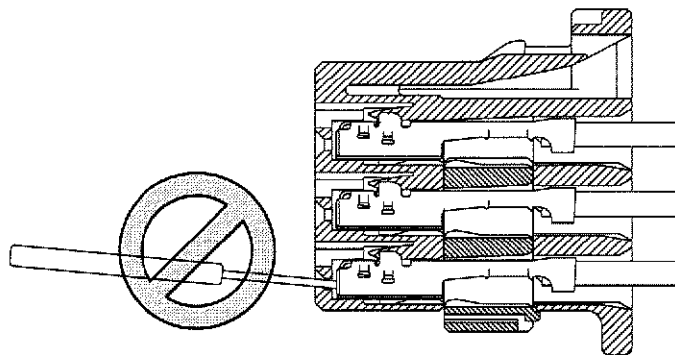

Fig.14
- (3) When the female contact can not be extracted, do not pull the wire by force but ensure the housing lance is unlocked.
**NOTE** *Take care not to insert the driver into the female contact. If the driver should be inserted, the female contact must be renewed. Re-using is never allowed. Fig.14.*